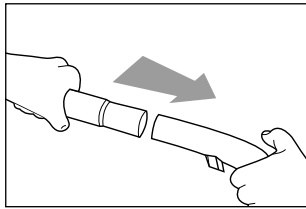

Fig. 4
- Insert the telescopic tube (O) into the handle (Fig. 4).